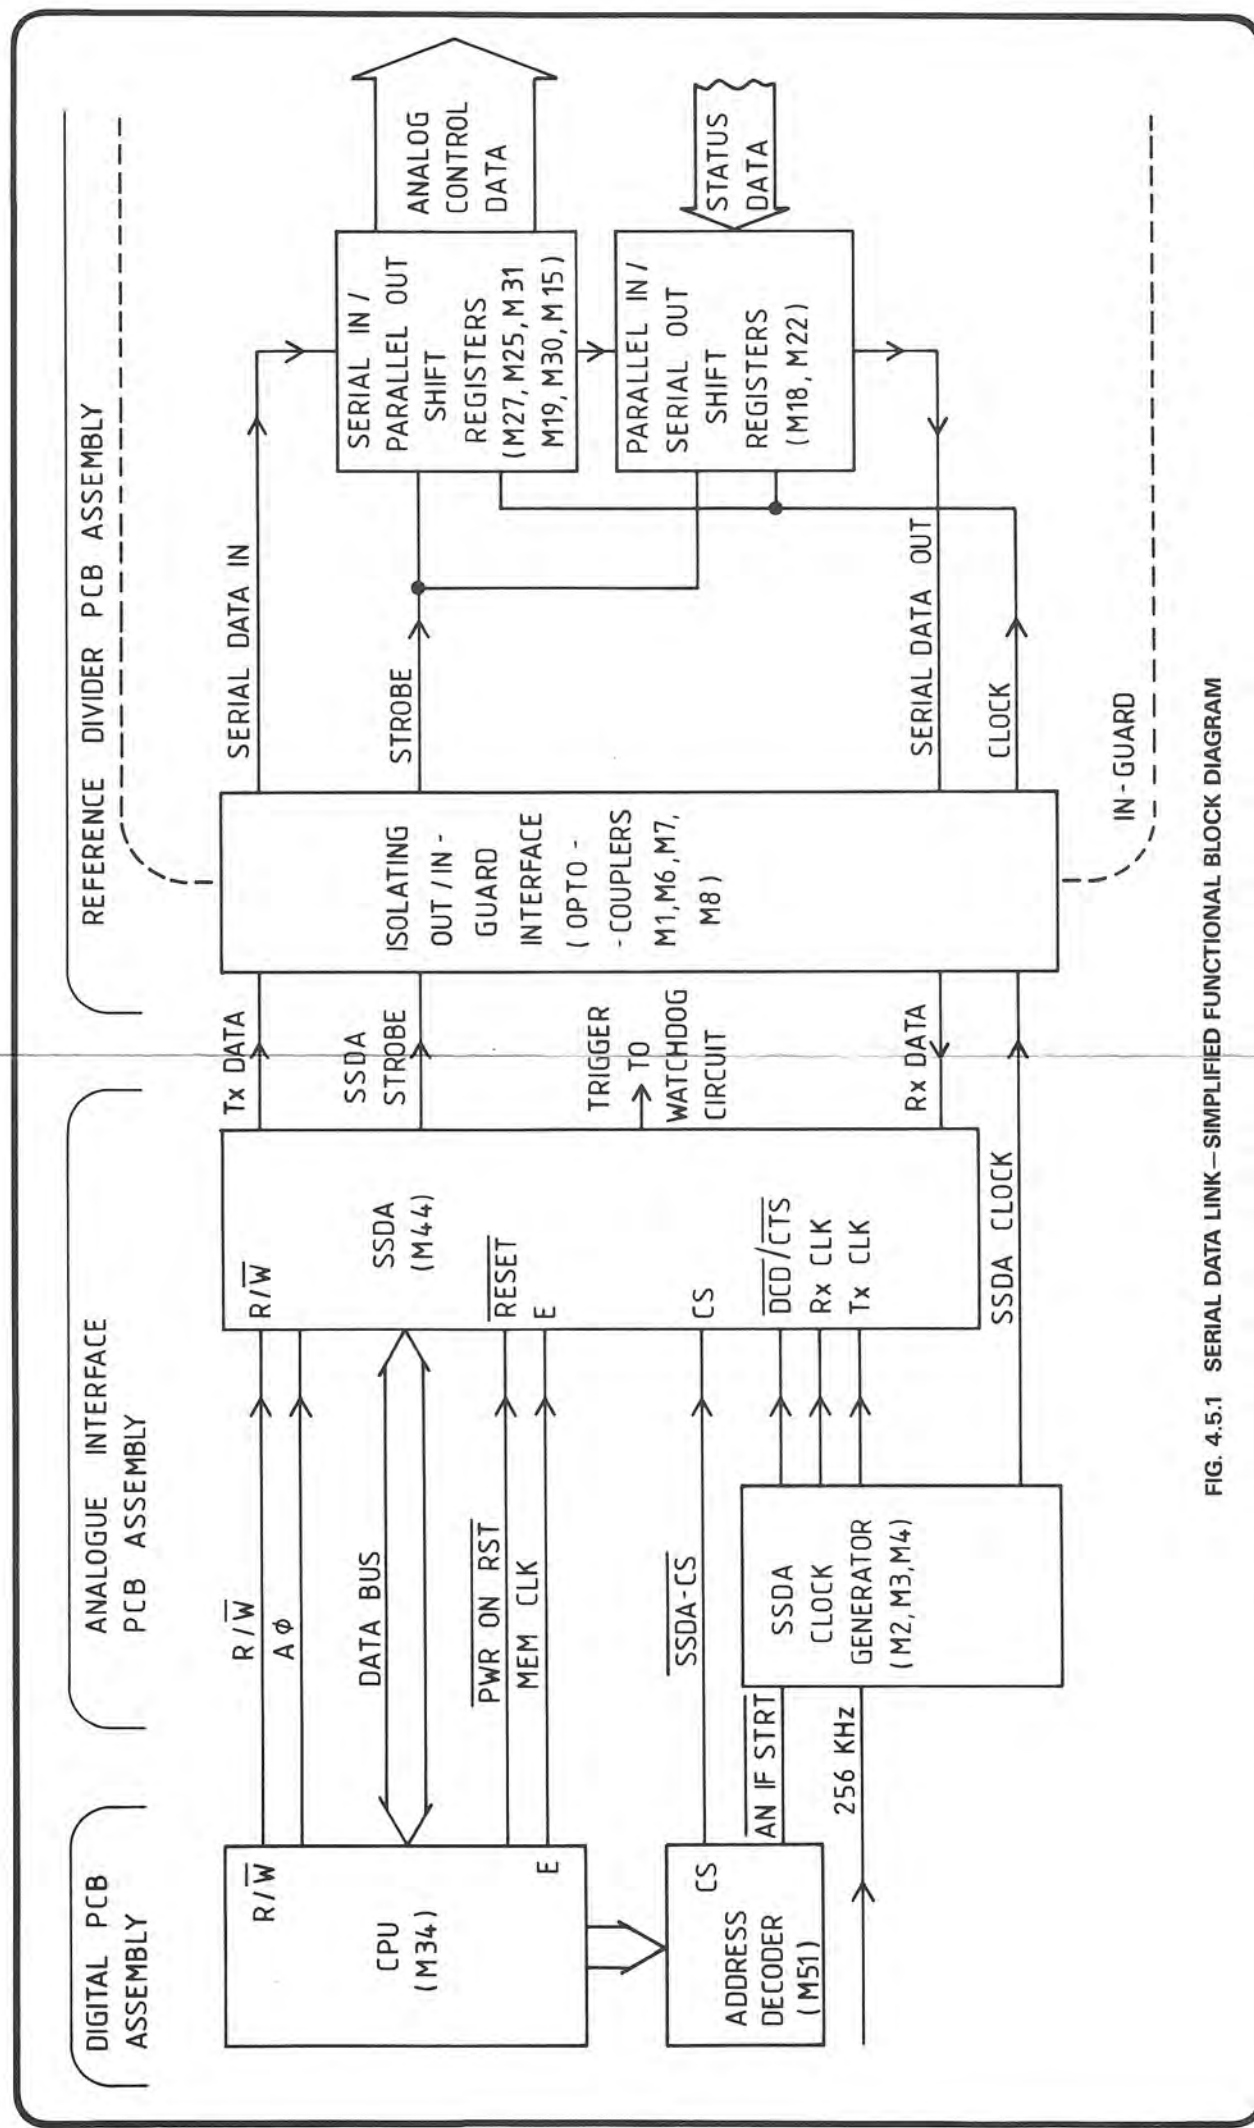

FIG. 4.5.1 SERIAL DATA LINK - SIMPLIFIED FUNCTIONAL BLOCK DIAGRAM
- (1) Provides a two-way interface via a serial data link between out-guard digital processing and in-guard analog control circuitry on the reference divider pcb. (See Fig. 4.5.1).
- (2) Monitors the CPU operation, serial transfer, digital supply failure and restart operations (watchdog), imposing a controlled safety default condition if there is a danger of losing digital control of the analog functions.
Certain selected 'Status' signals, originating in the analog assemblies, are returned to the CPU during the data transfer. Thus, the data link forms a continuous loop, as shown in Fig. 4.5.1.
4.5.2 Serial Data Transfer (Fig. 4.5.1)
4.5.2.1 The Transfer Cycle (Fig. 4.5.1)